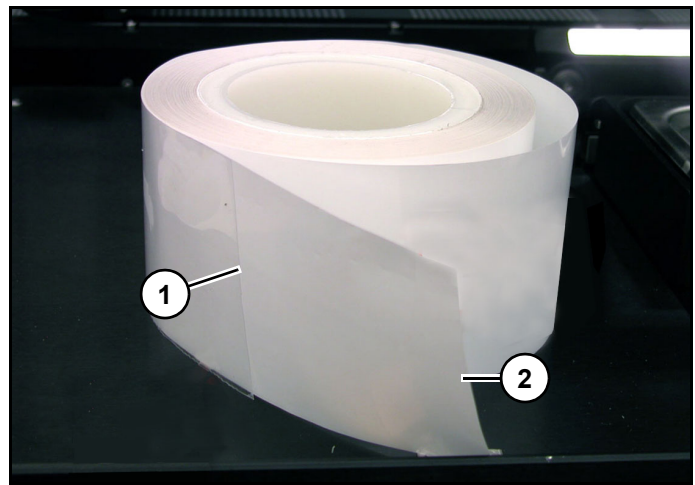

Figure 3
1. Using scissors, cut clear side 3-4 inches of clear tape (1) shorter than backing tape (2). (Figure 3)